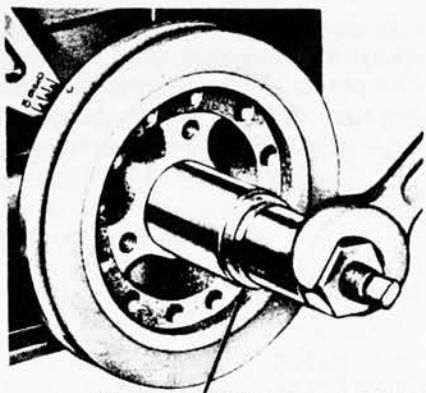

FIG. 60—Crankshaft Damper Installation
7. Line up the damper keyway with the key on the crankshaft. Install the damper on the crankshaft (Fig. 60).